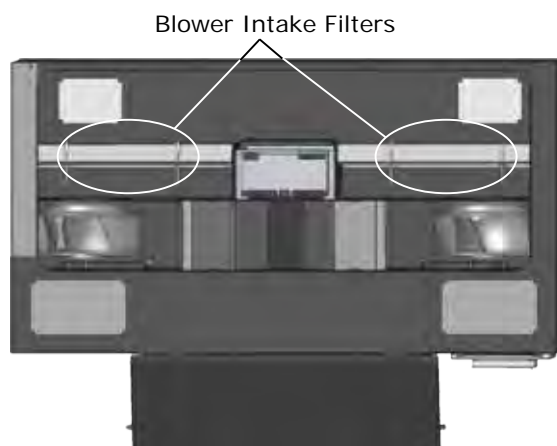

Figure 7-1 Blower Intake Filters and Brackets (Top-down view of Inverter)
2. Remove the two filters by loosening the wing nuts on the filter brackets. Refer to Figure 7-1.